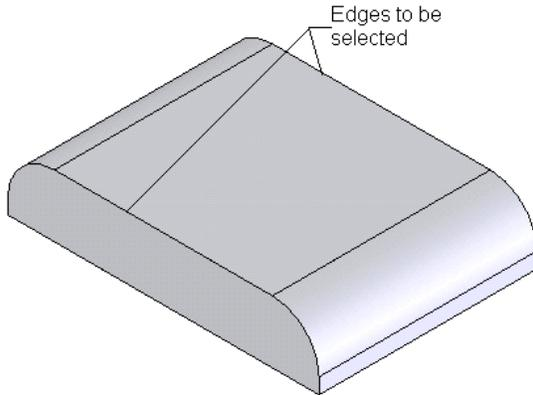

Figure 6-98 Edges to be selected
5. Select the edges of the model as shown in Figure 6-98 and right-click to complete feature creation.